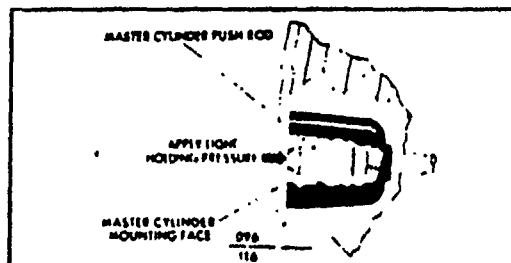

Fig. 54 Push Rod Adjustment.
2. Adjust the rod length to the .096/.116 dimension. (see fig. 54)